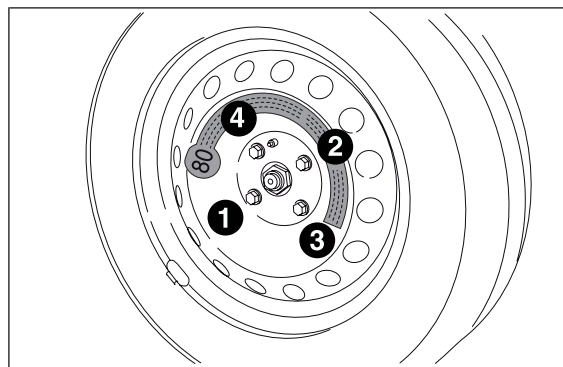

fig. 106
- ☐ use the wrench A provided to fully tighten the bolts in a criss-cross fashion as per the numerical sequence illustrated in fig. 106;